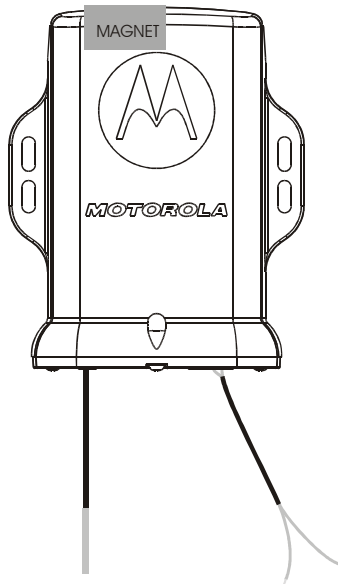

Figure 3
2. Place a magnet (such as the one supplied with the AMR Programming Kit) near the top of the housing as shown in Figure 3 below for at least three (and no more than five) seconds.